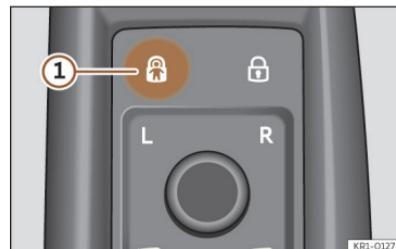

Fig. 76 On the driver's door: touch panel for the electric child lock.
- Activation: tap the touch panel >>> **Fig. 76** ①.
The indicator lamp  on the touch control lights up yellow when the electric child lock is activated >>> **Fig. 76(1)**.